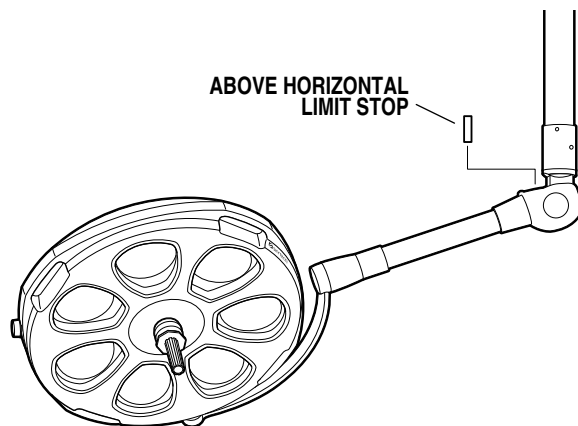

Figure 8. Above Horizontal Limit Stops
d. Pull the lighthouse down and remove the Above Horizontal Limit Stops from the BOM. See figure 8.
d. Pull the lighthead down and remove the Above Horizontal Limit Stops from the BOM. See figure 8.